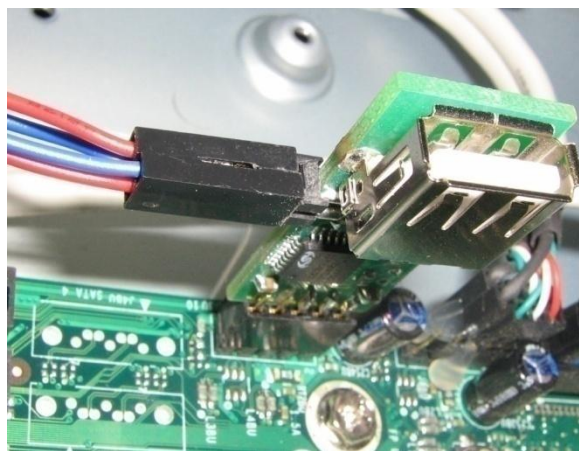

Figure 2.3-10 Connection of the cables to four-pin connector of the USB Watchdog device
3. Connect the Reset button cable to the four –pin connector of the USB Watchdog device with the help of a pair of contacts (1/0 or 2/0) (Figure 2.3-9). Connecting the Reset button cable to the USB Watchdog device is exemplified in Figure 2.3-10.
4. Connect the Watchdog cable to four-pin connector of the USB Watchdog device with the help of vacant pair of contacts (1/0, or 2/0) – Figure 2.3-10.